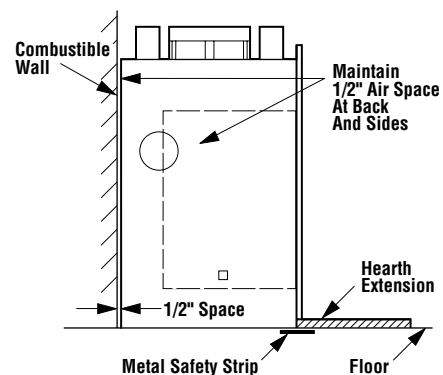

Figure 6
Step 2. Insert the provided metal safety strips, beneath the fireplace as illustrated (Figures 6, 7 and 8). The safety strips should overlap 1/2" for continual coverage of the floor.
Step 2. Insert the metal safety strips, packaged with the fireplace, beneath the fireplace as illustrated (Figures 6 and 7). The safety strips should overlap 1" for continual coverage of the floor.